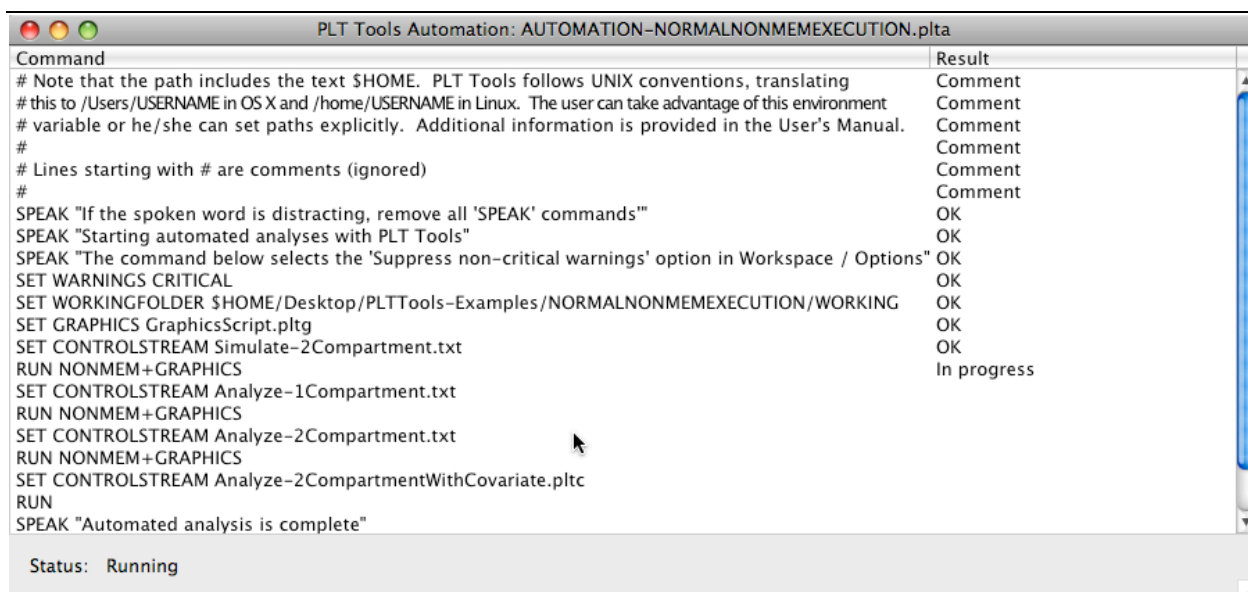

Figure 19. A sample automation session is displayed.
1. *User prepares an automation script:* The user can create a file with the extension .plta (PLT Tools automation); the location of the file is not important. The file contains a series of instructions to **PLT Tools**. A sample file appears in this folder. Once this file is created, clicking on the file should start **PLT Tools** in an automated manner.* A sample automation session is displayed in **Figure 19**.